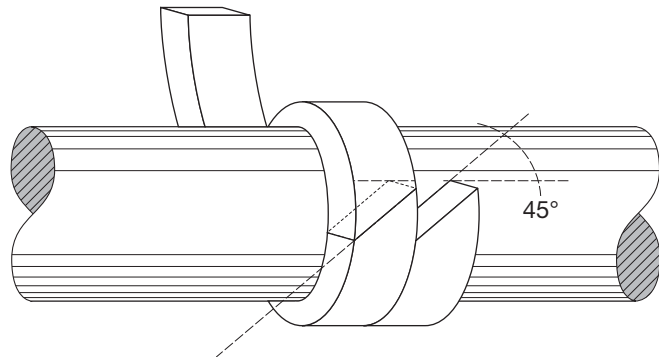

FIGURE 2 — Skive Joint
5. Always cut the packing into separate rings. Never wind a coil of packing into the stuffing box. The most desirable method of cutting rings for valves and expansion joints is to skive cut (45 degrees). (**See Figure 2**).
7. Remove from mandrel and skive cut the packing (**See Figure 2**). Use a sharp knife; using a dull knife will result in unraveling of the cut ends and cause greater leakage.